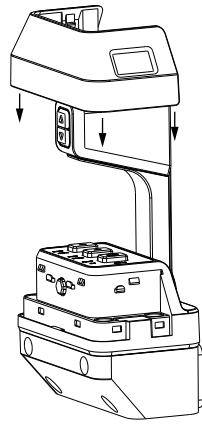

Figure 3-4
- Attach the decorative cover to the throttle and press it from the four corners to hold it in place (figure 3-4).